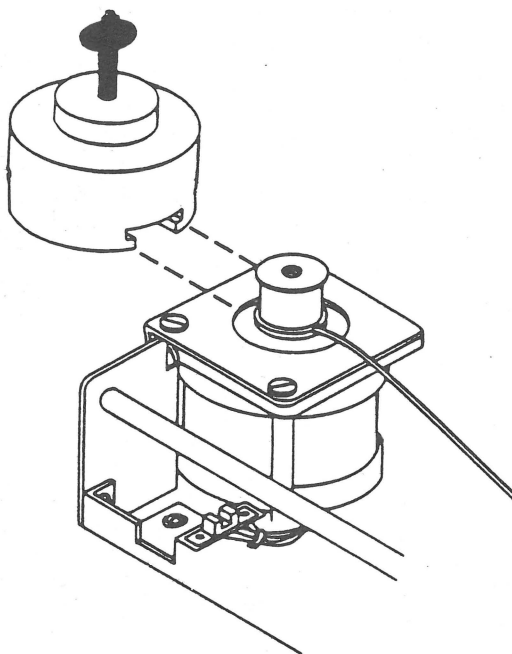

FIGURE 25
18. Use the pulley remover to take off the motor pulley. Slide the pulley remover onto the top of the pulley, and turn the screw clockwise until the pulley is free (see Figure 25).